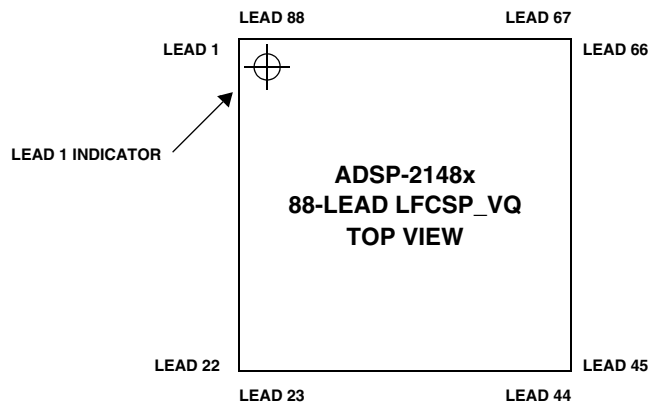
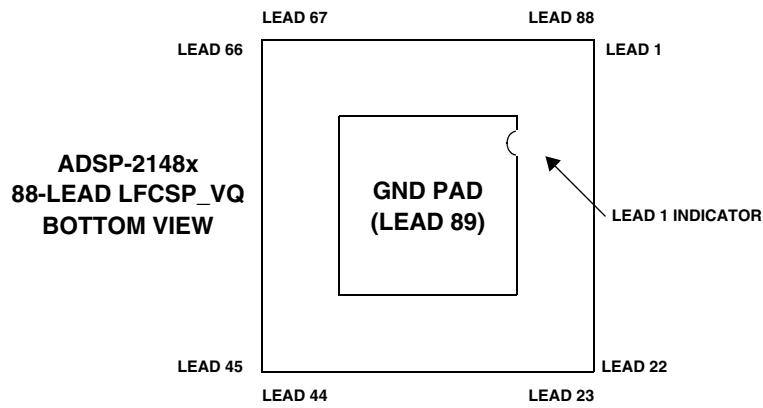

Figure 47. 88-Lead LFCSP_VQ Lead Configuration (Top View)
Figure 48. 88-Lead LFCSP_VQ Lead Configuration (Bottom View)
* Lead no. 89 is the GND supply (see Figure 47 and Figure 48) for the processor; this pad must be **robustly** connected to GND for the processor to function.
Figure 47 shows the top view of the 88-lead LFCSP_VQ pin configuration. Figure 48 shows the bottom view.